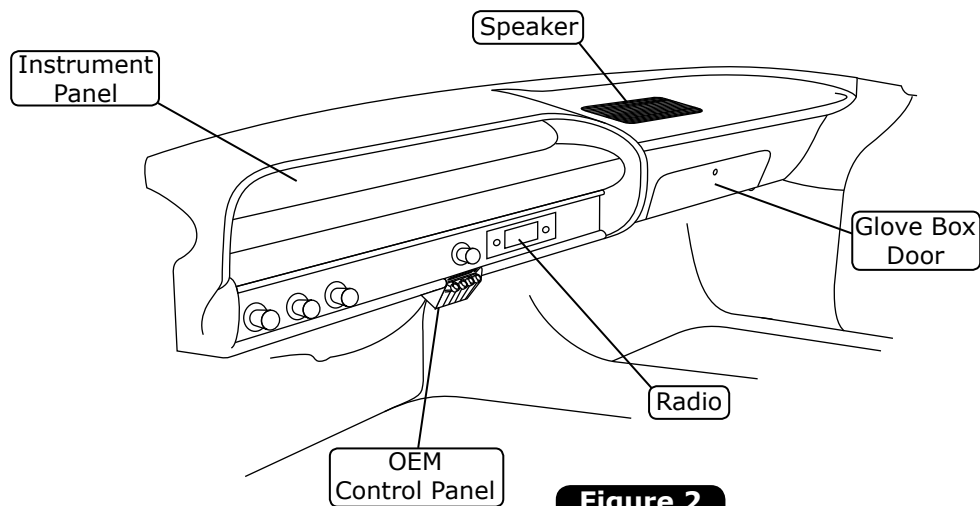

Figure 2
1. Remove the instrument panel (See Figure 2, below).
5. Remove the radio and speaker (retain) (See Figure 2, below).